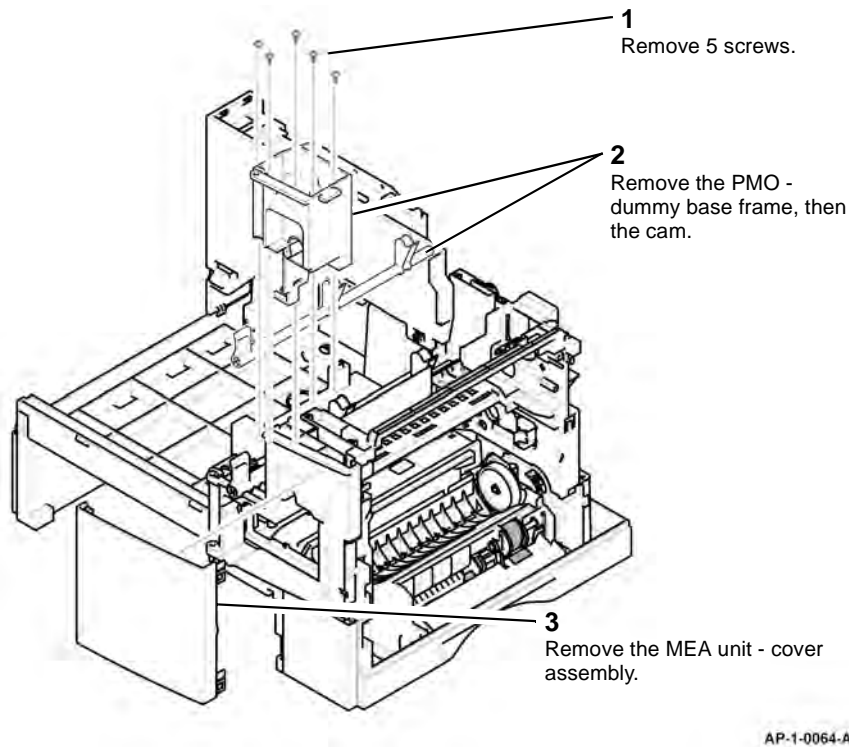

Figure 1 Dummy base frame removal
8. Remove the PMO - dummy base frame, PMO - cam jam remove and MEA unit - cover front assembly, Figure 1.